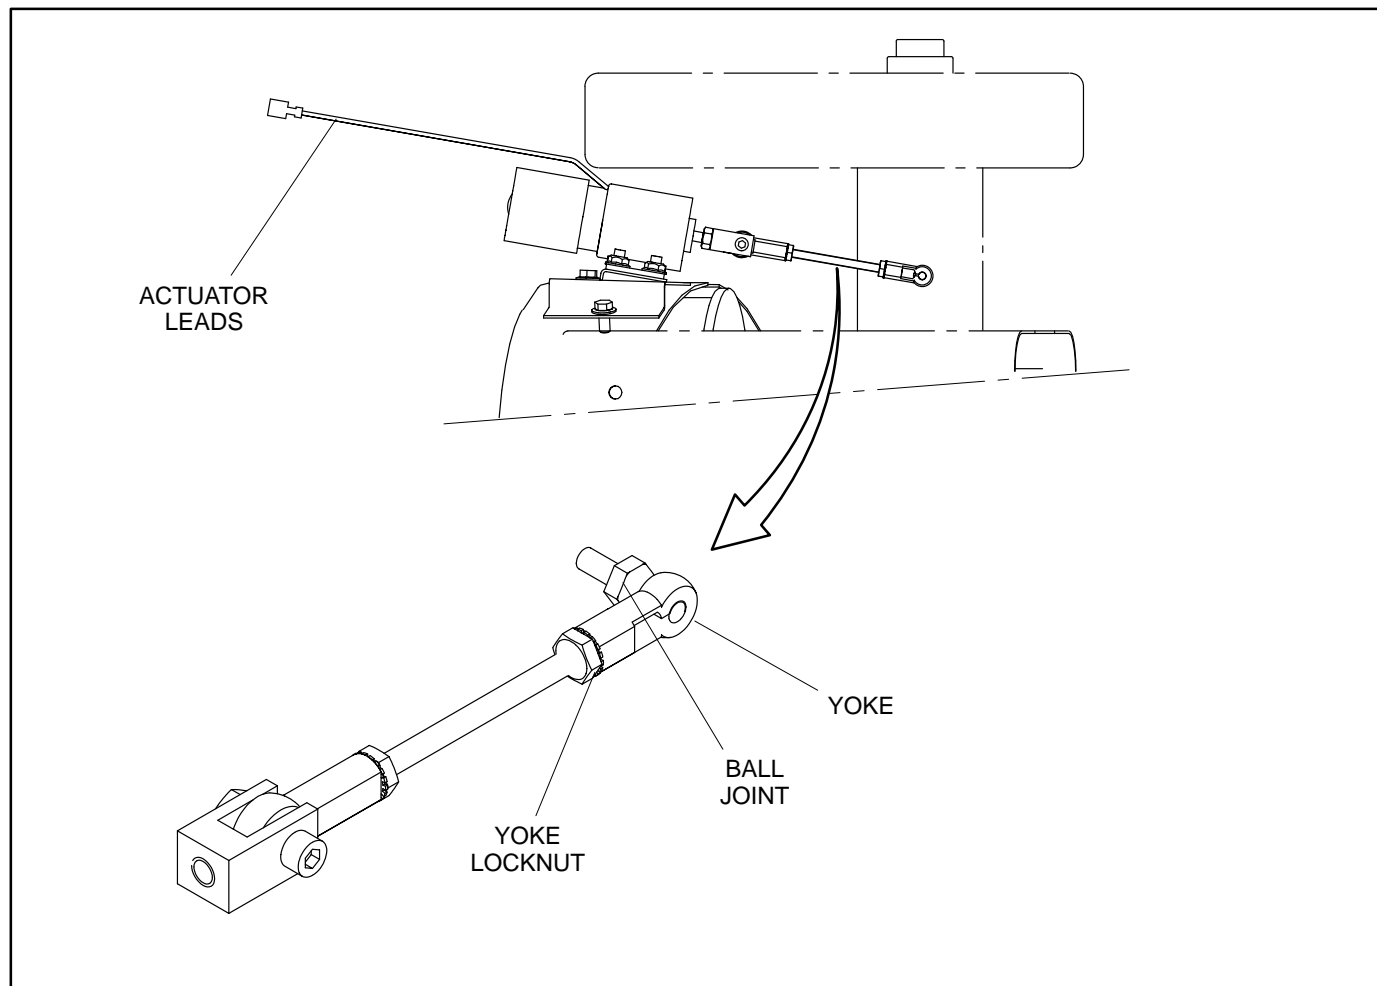

FIGURE 6-10. GOVERNOR ROD AND ACTUATOR
See Figure 6-10. The genset controller operates the throttle by means of the governor rod and actuator to maintain a nearly constant engine speed (frequency) as the electrical load on the genset varies.
2. Loosen the yoke locknut shown in Figure 6-10.